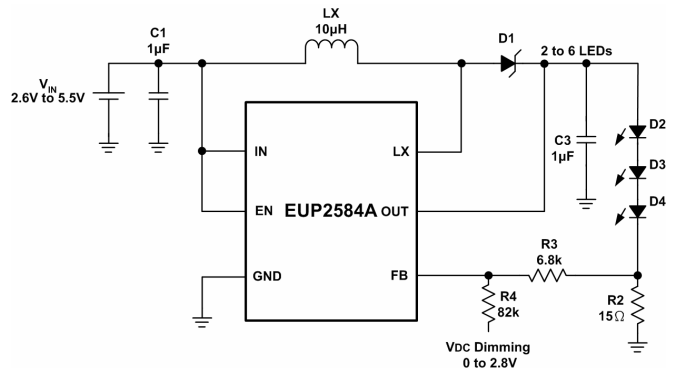

Figure 4. Dimming Control Using a DC Voltage
Using a variable DC voltage to adjust the brightness is a popular method in some applications. The dimming control using a DC voltage circuit is shown in Figure 4. According to the Superposition Theorem, as the DC voltage increases, the voltage contributed to V_{FB} increases and the voltage drop on R2 decreases, i.e. the LED current decreases. For example, if the V_{DC} range is from 0V to 2.8V, the selection of resistors in Figure 4 sets dimming control of LED current from 20mA to 0mA.
Figure 7 is another application of EUP2584A for backlight and keypad. Setting the divider-resistors (R1 & R2) is to get a constant output voltage that depends on the forward voltage and the numbers of series-LEDs. It can turn on backlight of main panel and keypad at the same time. Applying different duty cycle of PWM signal above 22kHz to the backlight's switch can also control the brightness of main panel's backlight. The keypad's backlight will keep the same brightness during the dimming control of main panel. Otherwise the brightness of keypad's s backlight can also change during the dimming control of main panel by using the application circuit as figure 4. The following formula (5)(6) can determine the resistors of Figure 8.